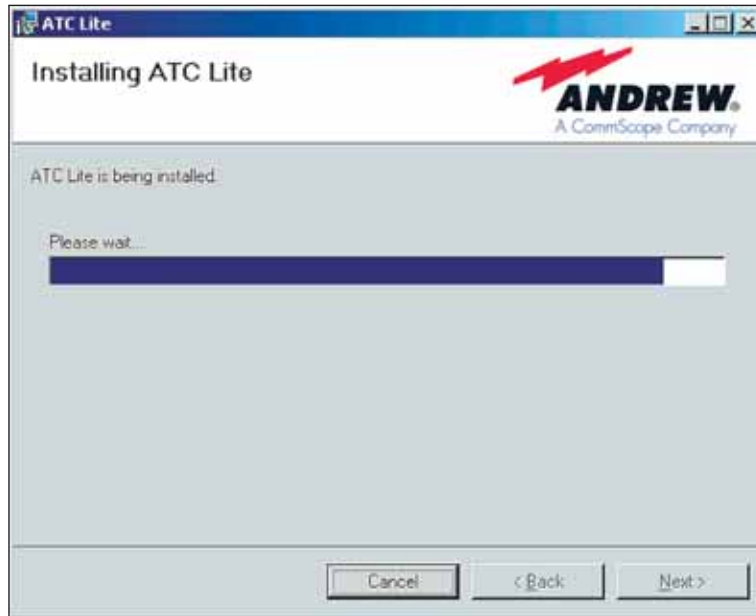

Figure 2. ATC200-LITE-USB Controller Installation Screen.
- Figure 2 shows the active installation screen.